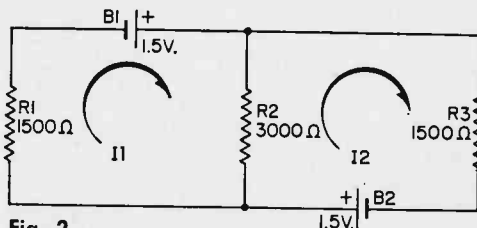

Fig. 2
**A Simple Experiment.** To prove a point, construct the circuit in Fig. 2 using 5%
resistors and D-size, or larger, fresh dry cells (1.5 volts). The circuit in Fig. 2 will have zero current flowing through resistor R2. This can be checked with a voltmeter across R2 (it will read zero) or an ammeter in